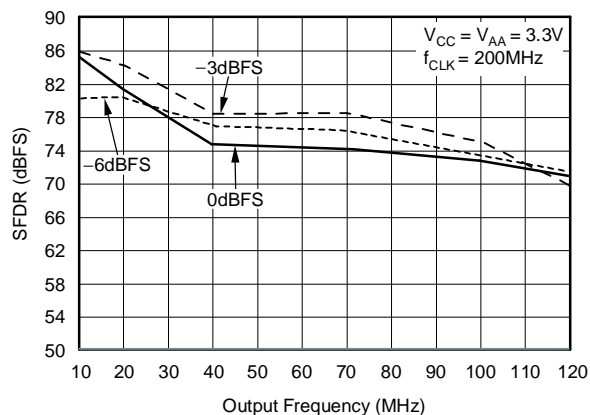

Figure 9.
(1) Noise averaged up to 400MHz when operating at 400MSPS.
(2) See Figure 9.